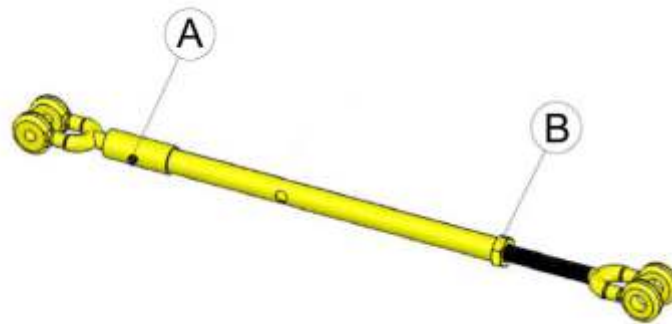

Figure 8c
Grease the turnbuckle bearings (A) Figure 8c . Use high-grade lithium grease. Pump in the grease until it comes out of the bearing. Ensure that the turnbuckle lock nut (B) Figure 8c is tight.